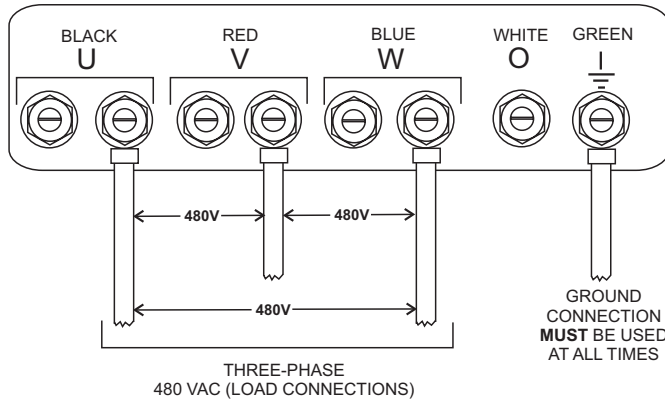

**Figure 19. UVWO Terminal Lugs
2. Connect the load wires to the UVWO terminals as shown in Figure 19.